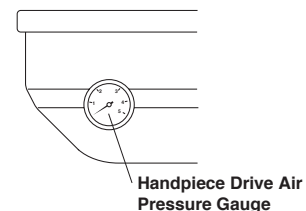

Fig.3-17 Handpiece Pressure Gauge
(6) Handpiece Pressure Gauge (Fig.3-17)